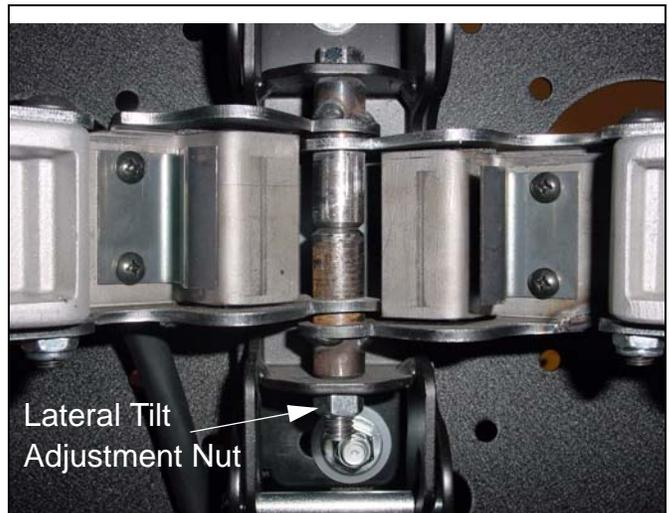

Figure 14: Lateral Tilt
1. Using a 9/16" wrench, slightly tighten or loosen lateral tilt tension adjustment nut (see figure 14) (See Figure 14:).